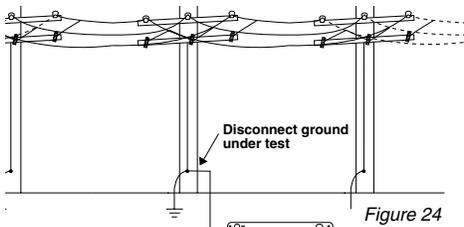

Figure 24
**B)** If the previous method fails, try changing the alignment of the auxiliary cables so that they are not parallel to power lines above or below the ground. (Figure 24)